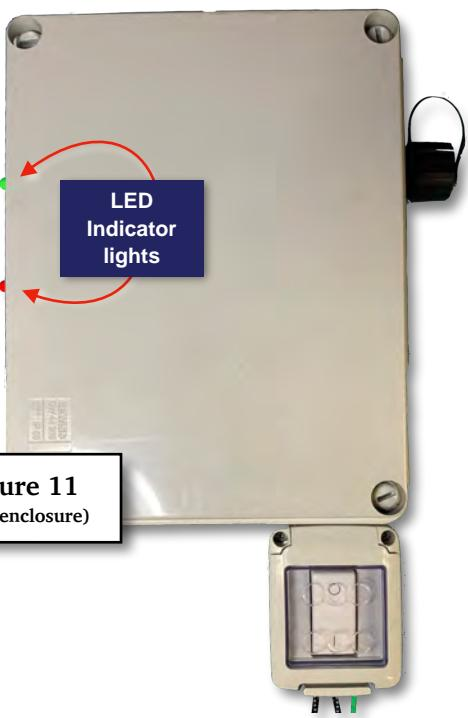

Figure 11
- 1** Once the Hub and associated Nodes are installed according to SECTIONS I & II, turn Hub switch to energized position. A green LED light on side of Hub should be illuminated at this stage (See Figures 11 & 12 for location of LED indicator lights).